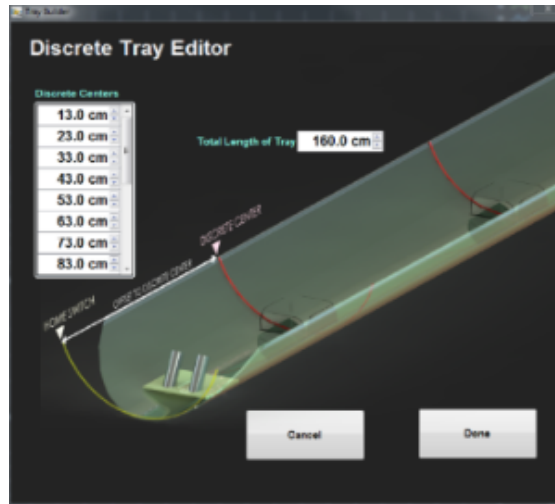

Figure 7- Discrete Tray Editor Window
- For discrete trays, define the discrete centers (offset from the tray's edge that strikes the home switch to the center of the position in which the specimens are placed). Set the total tray length (**Figure 7**). *When measuring the background of the discrete tray, only these specific locations will be measured. The user will select which positions are actually used later during sample entry.* To remove a discrete center, right click on the position and select **Delete element**.